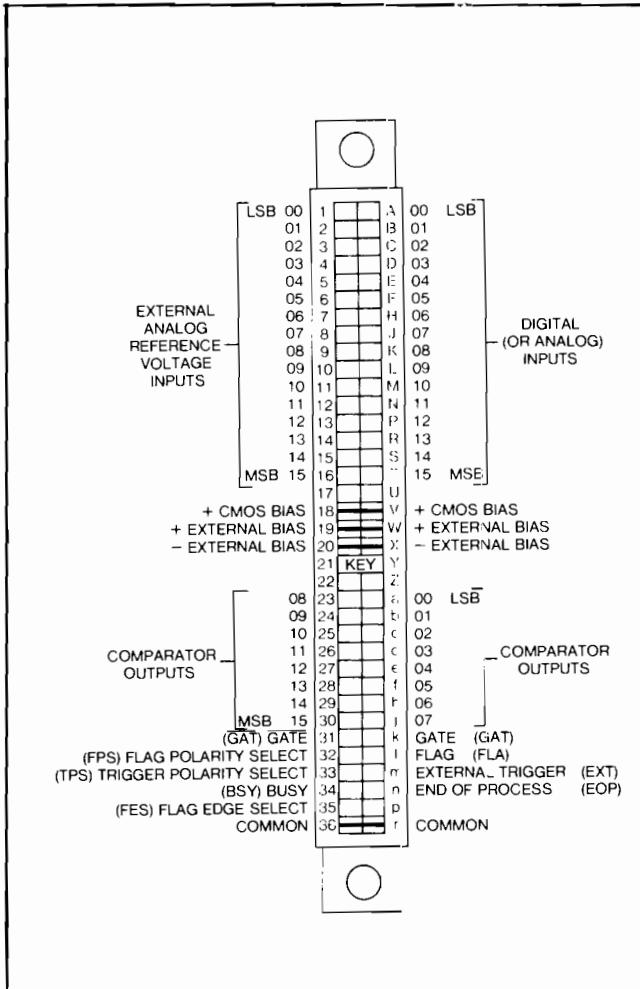

Figure 3-2. Digital Input Card, External Edge Connector
**3-21** The cards input comparators are normally biased by a  $\pm 12$  V mainframe supply. Jumpers W53 and W54 make the connections to this supply. If necessary, the permissible range of comparator reference voltages can be widened by using an external  $\pm 15$  V comparator bias supply. To do so, remove jumpers W53 and W54 and install W55 and W56. Make connections as shown on Figure 3-2.
3-34 The pin assignments of the input and output signals available at the edge connector supplied with the card are shown in Figure 3-2. The lettered pins are on the component side of the card, numbered pins on the opposite side.
3-36 Table 3-3 describes the control signals and bias voltages which interconnect between the Digital Input card and the Customer's equipment. The electrical specifications for these signals are given in Table 1-1 of Section I. The pin numbers given in Table 3-3 correspond to those on the I/O Edge connector shown in Figure 3-2.